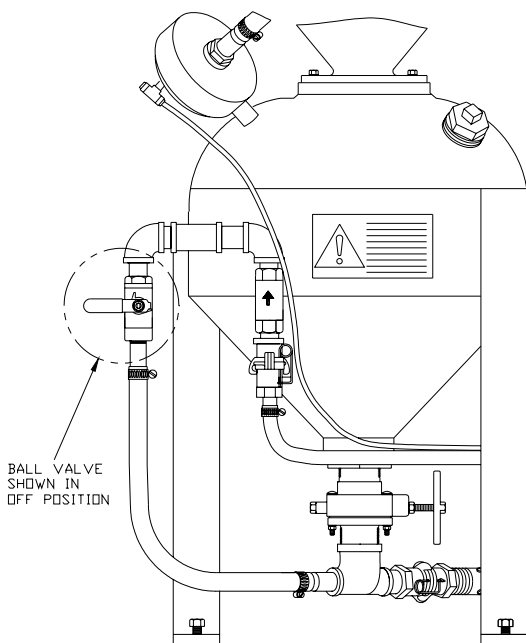

Figure 15. Closed Choke Valve
- B) Close the choke (ball) valve on the pressure vessel pipe string. (see Figure 15).